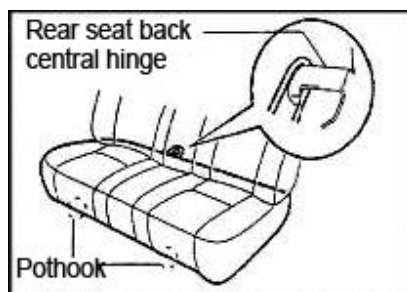
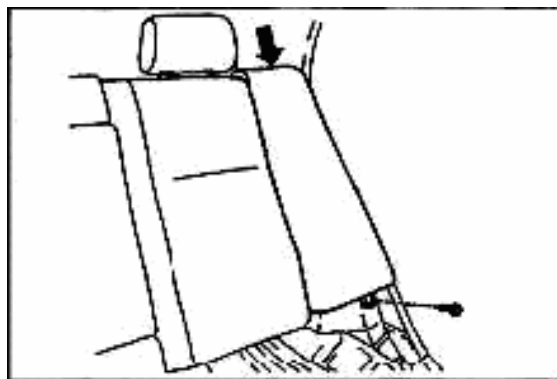

Fig. 7-15
Fig. 7-19
- ② Remove the bolts and the armrest.
- (11) Install the central hinge of the rear seat back with two bolts at the torque of 20.4N·m.
- (12) Install the left hinge of the rear seat back with bolts at the torque of 18.1N·m.
- (13) Install the side back hinge of the rear seat with bolts at the torque of 18.1N·m.
- (14) Install the left rear side seat side back assembly with bolts at the torque of 7.8N·m.
- (15) Install the right rear seat side back assembly with bolts at the torque of 7.8N·m.
- (16) Install the left rear seat back assembly with two bolts at the torque of 18.1N·m.
- (17) Install the right rear seat back assembly with two bolts at the torque of 18.1N·m.
- (18) Install the rear seat cushion assembly, as shown in Fig. 7-15.
(1) Install the rear seat cushion, referring to Fig. 7-15.
① Push the cushion backwardly to make the back pad pin the cushion.
② Put the frame pothook of the seat on the two buckle seat assemblies (front side).
(2) Install the left armrest assembly.
① Reverse to the removal steps, press the armrest along the direction shown in Fig. 7-19 so as to fix the pothook on the body.